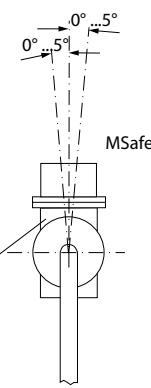

Fig. 6
- The inclination of the device transverse to the direction of the pipe may not exceed 5 degrees compared to the vertical (Fig. 6).